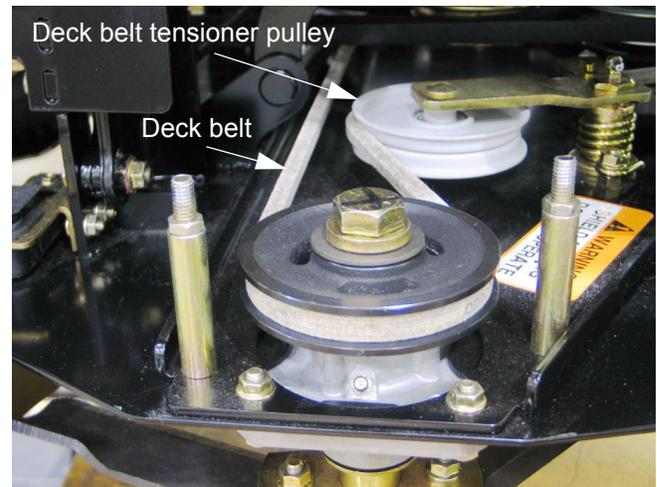

Figure 4.3
- 4.3. Working from the right of the mower, use a 1/2" breaker bar to move the deck belt tensioner pulley arm, relieving tension from the deck belt. See Figure 4.3.